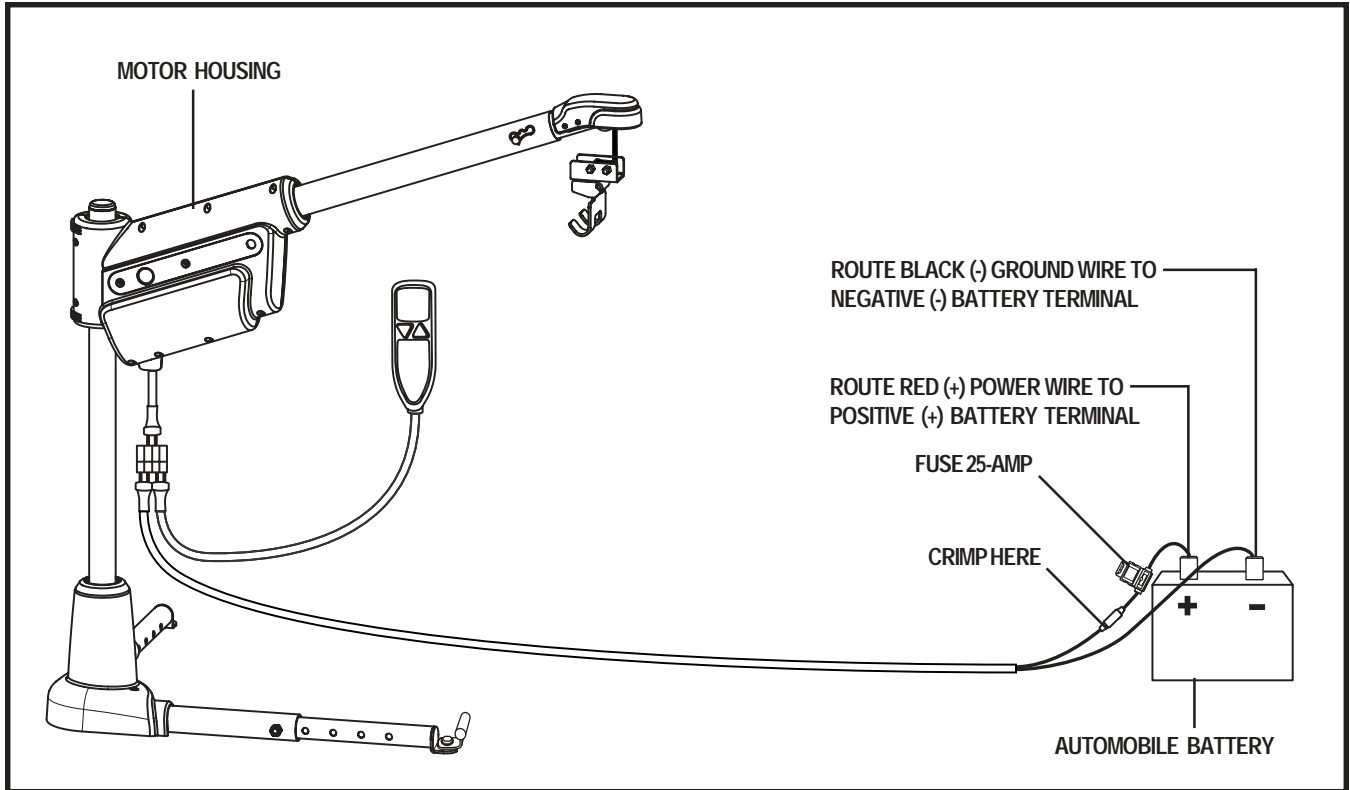

Figure 12. Electrical Wiring Connections
1. Route the lift's long power wire (starting at the lift) through the interior of the vehicle until you reach the automobile battery. **See figure 12.** Conceal the wire behind or under the interior panels (there should be existing holes). Be certain that the wire is protected with a rubber grommet when passing it through the metal panels and into the engine compartment. Inside the engine compartment, secure the wire to the firewall and the inner fender with the supplied plastic wire ties. Use care not to cause abrasions to the power wire. It is important to secure the power wire at various points along its run.
NOTE: *If installed in a trunk, disconnect the black-red power harness (see figure 12) and remove the motor housing and upper post and place it in an area where it will be secure. The height of the boom-arm will not allow the trunk to close.*